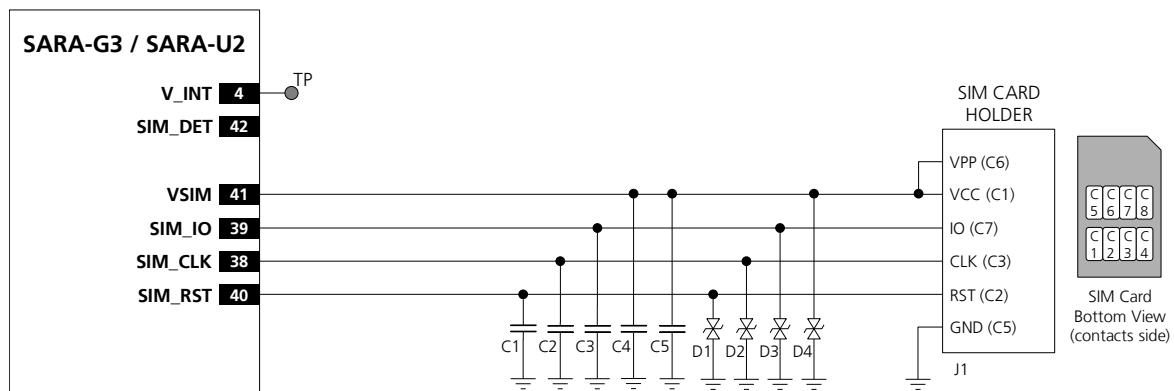
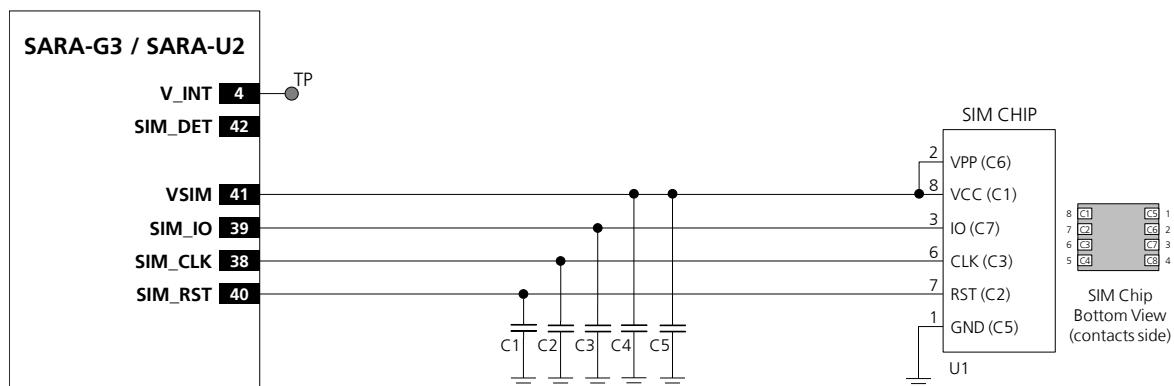
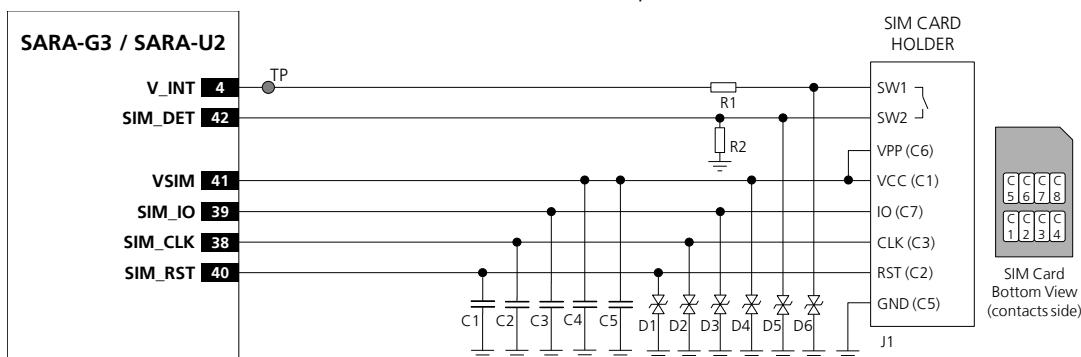
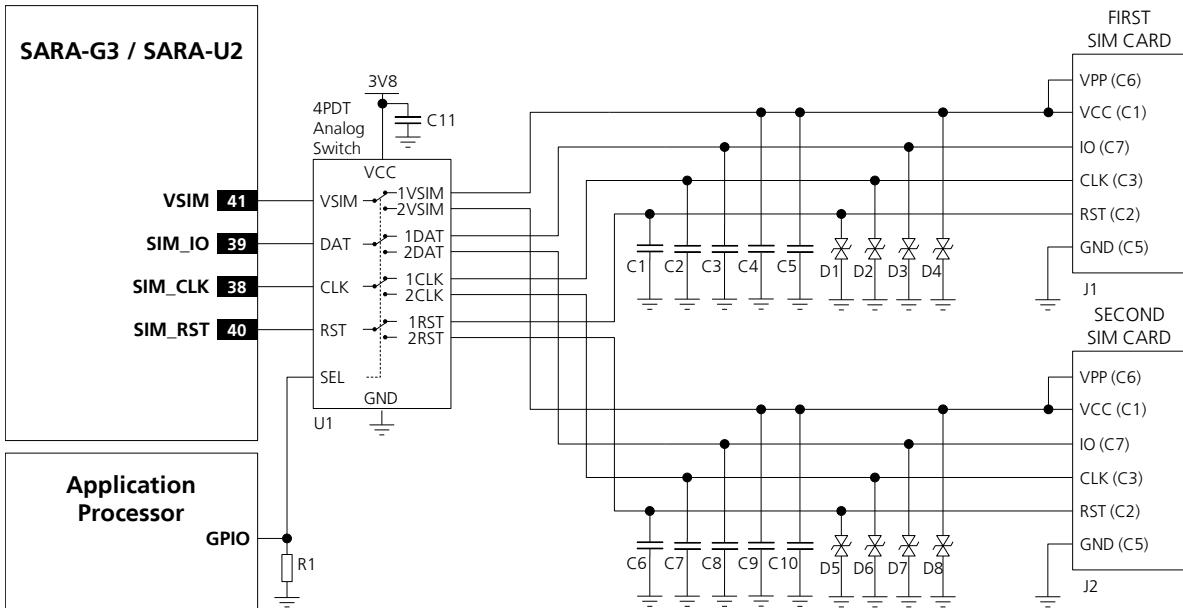

Figure 55: Application circuit for the connection to a single removable SIM card, with SIM detection not implemented
Figure 56: Application circuit for the connection to a single solderable SIM chip, with SIM detection not implemented
Figure 57: Application circuit for the connection to a single removable SIM card, with SIM detection implemented
Figure 58: Application circuit for the connection to two removable SIM cards, with SIM detection not implemented
An application circuit for the connection to a single removable SIM card placed in a SIM card holder is described in Figure 55, where the optional SIM detection feature is not implemented (see the circuit described in Figure 57 if the SIM detection feature is required).
An application circuit for the connection to a single solderable SIM chip (M2M UICC Form Factor) is described in Figure 56, where the optional SIM detection feature is not implemented (see the circuit described in Figure 57 if the SIM detection feature is required).
An application circuit for the connection to a single removable SIM card placed in a SIM card holder is described in Figure 57, where the optional SIM card detection feature is implemented.
- Connect one pin of the mechanical switch integrated in the SIM connector (as the SW2 pin in Figure 57) to the **SIM_DET** input pin, providing a weak pull-down resistor (e.g. 470 kΩ, as R2 in Figure 57).
- Connect the other pin of the mechanical switch integrated in the SIM connector (as SW1 pin in Figure 57) to the **V_INT** 1.8 V supply output by means of a strong pull-up resistor (e.g. 1 kΩ, as R1 in Figure 57).
Two SIM card / chip can be connected to the modules' SIM interface as described in the circuit of Figure 58.
SARA-G3 and SARA-U2 modules do not support the usage of two SIM at the same time, but two SIM can be populated on the application board providing a proper switch to connect only the first SIM or only the second SIM per time to the SIM interface of the SARA-G3 and SARA-U2 modules as described in Figure 58.
In the application circuit example represented in Figure 58, the application processor will drive the SIM switch using its own GPIO to properly select the SIM that is used by the module. Another GPIO may be used to handle the SIM hot insertion / removal function of SARA-U2 modules, which can also be handled by other external circuits or by the cellular module GPIO according to the application requirements.
The dual SIM connection circuit described in Figure 58 can be implemented for SIM chips as well, providing proper connection between SIM switch and SIM chip as described in Figure 56.
If it is required to switch between more than two SIMs, a circuit similar to the one described in Figure 58 can be implemented: for example, in case of four SIM circuit, using a proper 4-pole 4-throw switch (or, alternatively, four 1-pole 4-throw switches) instead of the suggested 4-pole 2-throw switch.
In the second case, the same harmonics can be picked up and create self-interference that can reduce the sensitivity of GSM / UMTS receiver channels whose carrier frequency is coincidental with harmonic frequencies: placing the RF bypass capacitors suggested in Figure 57 near the SIM connector will mitigate the problem.
In addition, since the SIM card is typically accessed by the end user, it can be subjected to ESD discharges: add adequate ESD protection as suggested in Figure 57 to protect module SIM pins near the SIM connector.